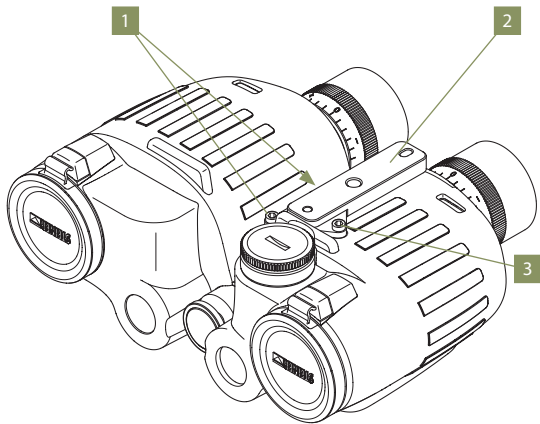

Fig. 3
3. Fasten the tripod adapter **2** using the three hex-head screws **1** (2x M3x16) and **3** (1x M3x12) with a maximum tightening torque of 1.2 Nm, see Fig. 3.